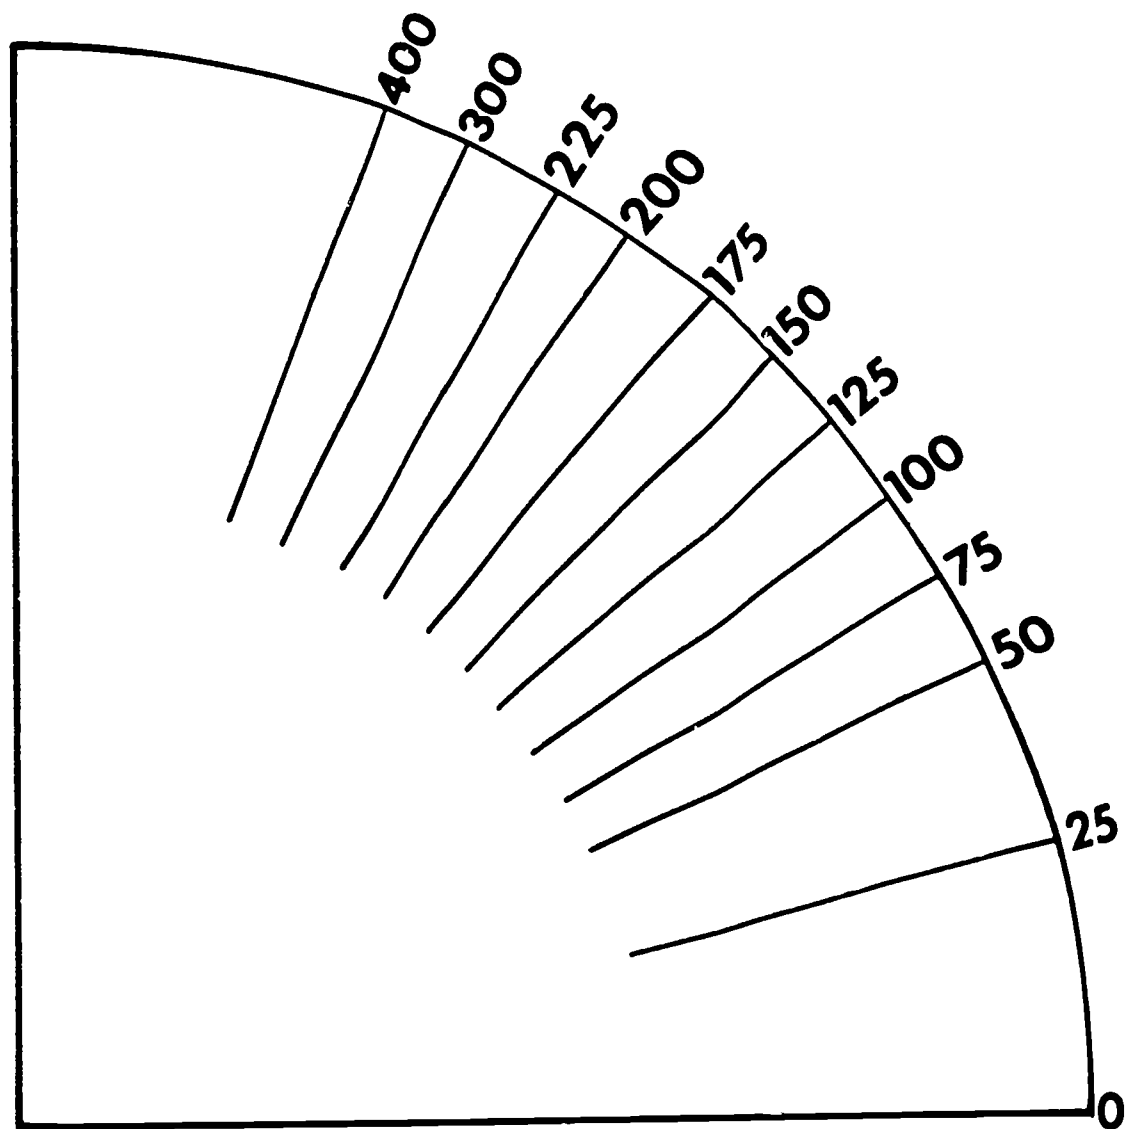

Fig. 4G-14. Altitude Scope Calibrated Scale
2. Cut a calibrated panel from a Laboratory Manual for each scope to be produced. See Fig. 4G-14 for template pattern of scale.